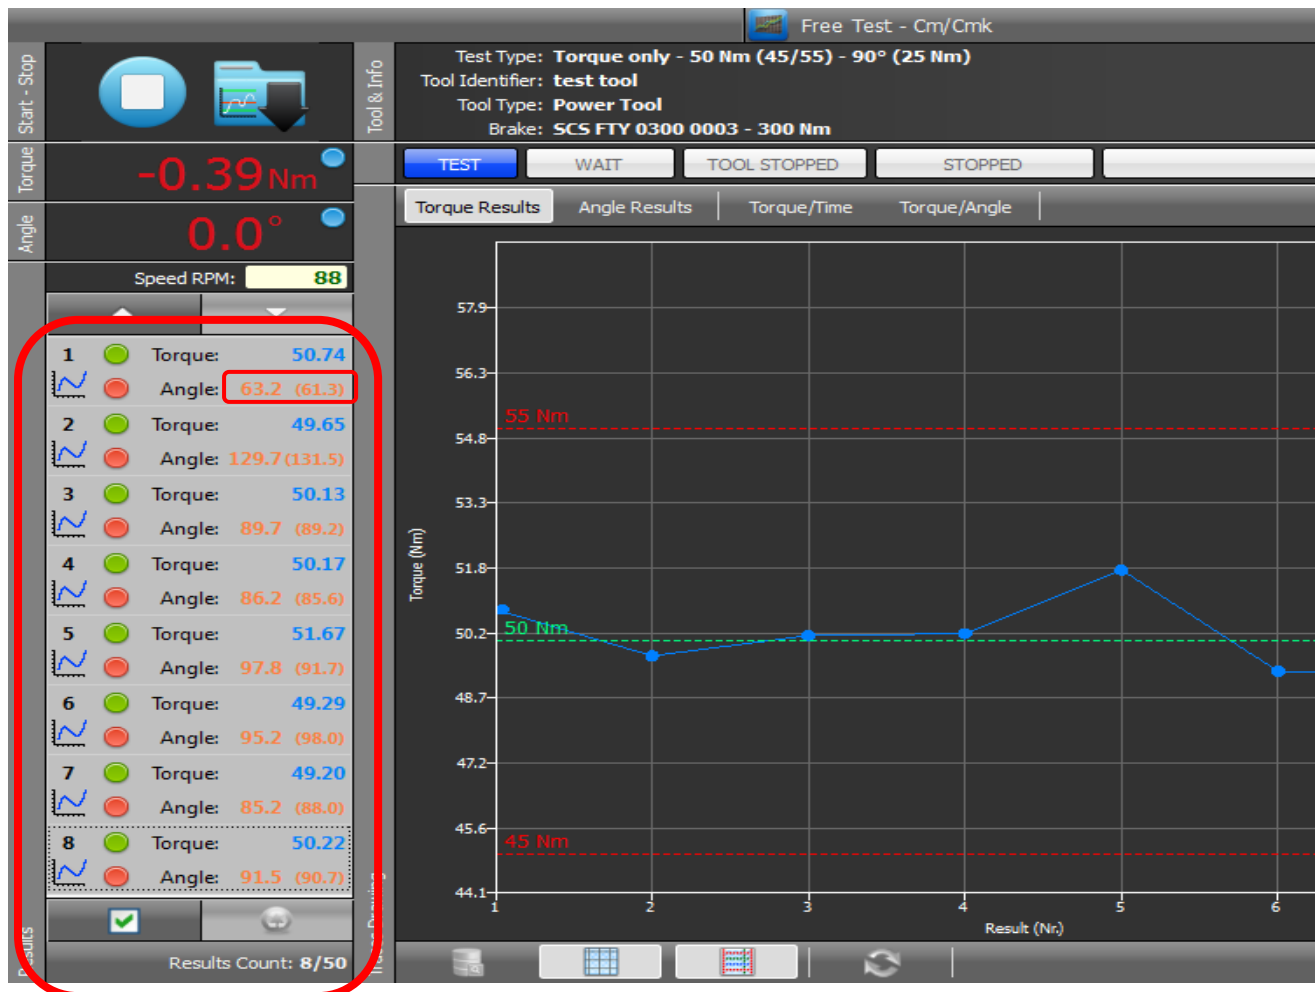

Figure 9
- if a test is executed by a **brake**, the tool chosen is a **power tool** and is a **torque only** test type, into results table user interface of the test is shown also the **nominal angle** (See **Figure 9**). This value is obtained by this formula: